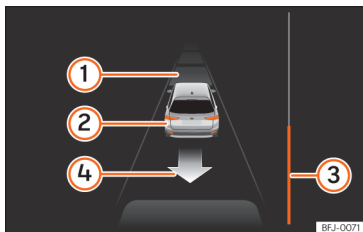

Fig. 284 On the instrument panel display: driving off from perpendicular parking.
Key to the **Fig. 284**:
The progress bar » Fig. 284 ③ indicates the distance to cover » page 310.